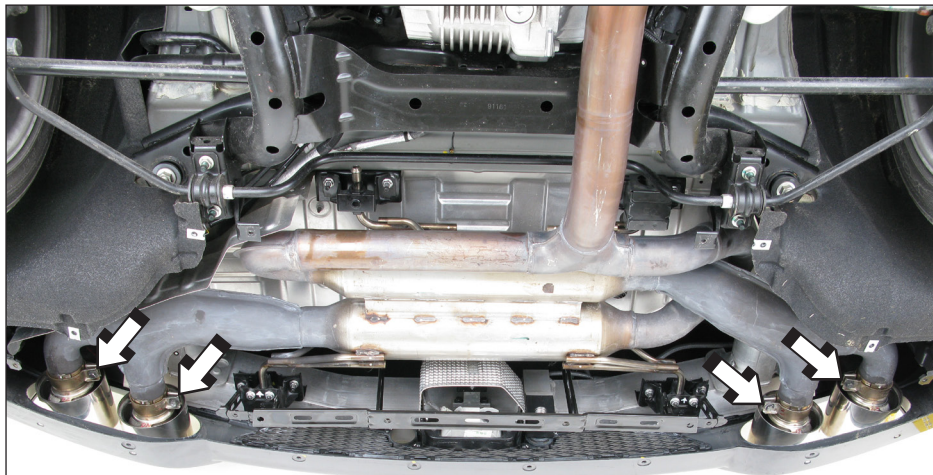

Figure 3
2. **For Slip-On and Evolution:** untighten the four tail-pipe clamps and remove the tail-pipes off the vehicle (**Figure 3**).